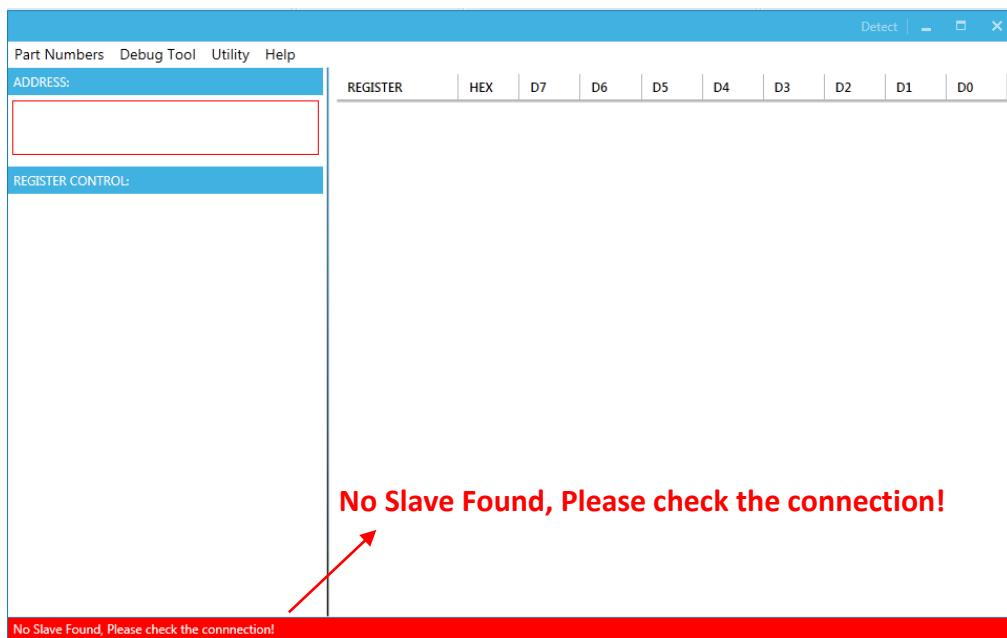

Figure 8: Warning Indicates Unsuccessful Connection – Evaluation Board Not Connected
- “No Slave Found. Please check the connection!” means that the evaluation board is not connected (see Figure 8).